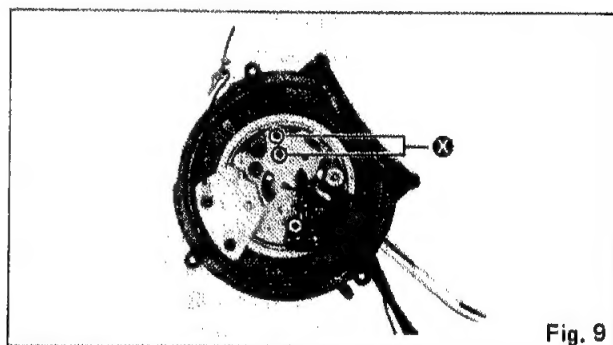

Fig. 9
23. Remove 2 screws **X** of the tone arm as shown in Fig. 9.